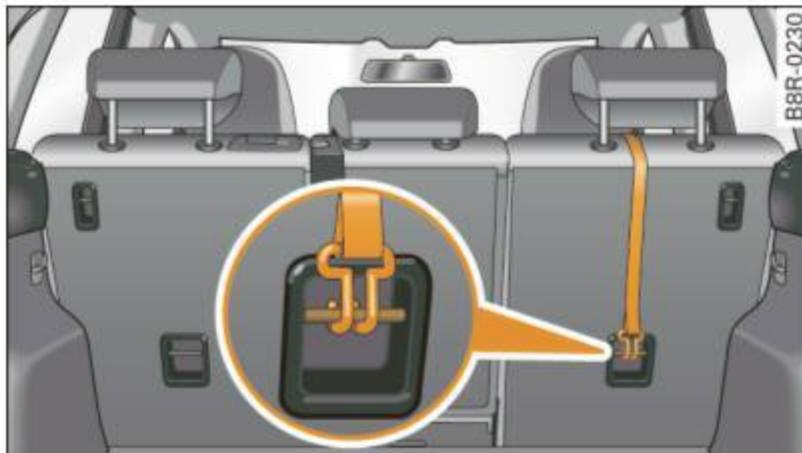

Fig. 189 Tether strap: proper routing and mounting
- Guide the upper tether strap **under** the rear head restraint and into the rear cargo area ⇒ fig. 189 (raise the head restraint if necessary).